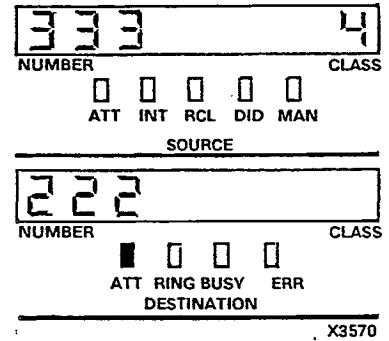

Figure 316-2
- * SOURCE display shows number of check extension 1 and digit 4 (Don't Answer code) (Figure 316-2)
- * SOURCE display shows number of check extension 1 and 'Busy-Don't Answer code '4' (Figure 316-2)
- * DESTINATION display shows number of check extension 2 (Figure 316-2)